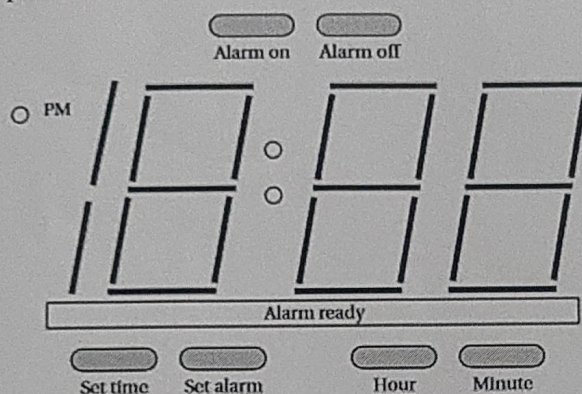

Figure 1: Front panel of the alarm clock.
06. Consider a microprocessor has to update the time, display and read the clock's buttons. Figure 1 depicts the alarm clock's front panel design which is showing the time in form of minute and hour, display unit.